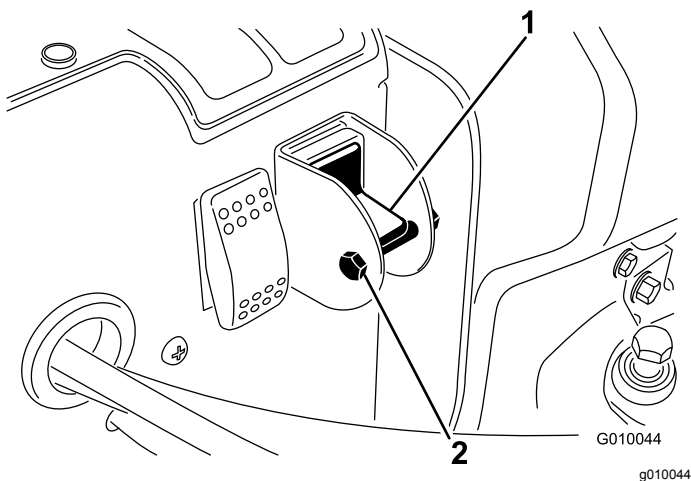

Figure 30
4. Remove the locking bolt and nut from the selector switch (Figure 30).